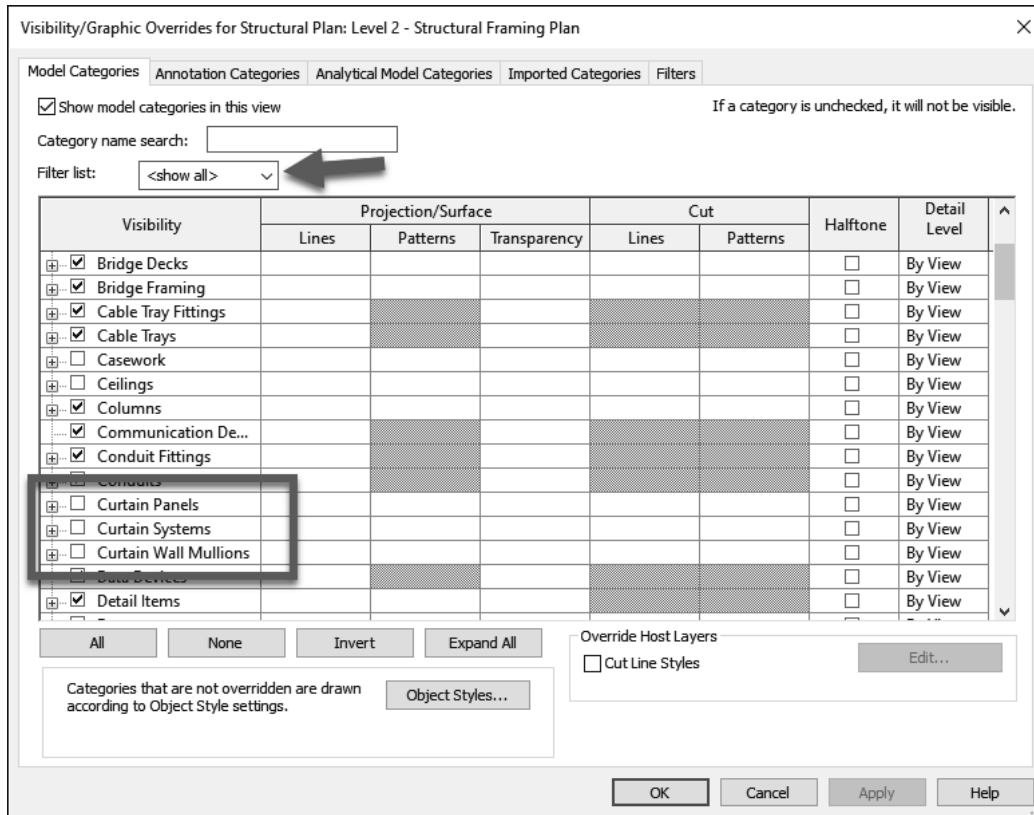

FIGURE 8-3.11 Visibility dialog; turning off the curtain walls
23. Set *Filter list* to **Show all**, if not already set. (See Figure 8-3.11.)
24. Uncheck the three “**Curtain**” categories, if not already turned off. (See Figure 8-3.11.)